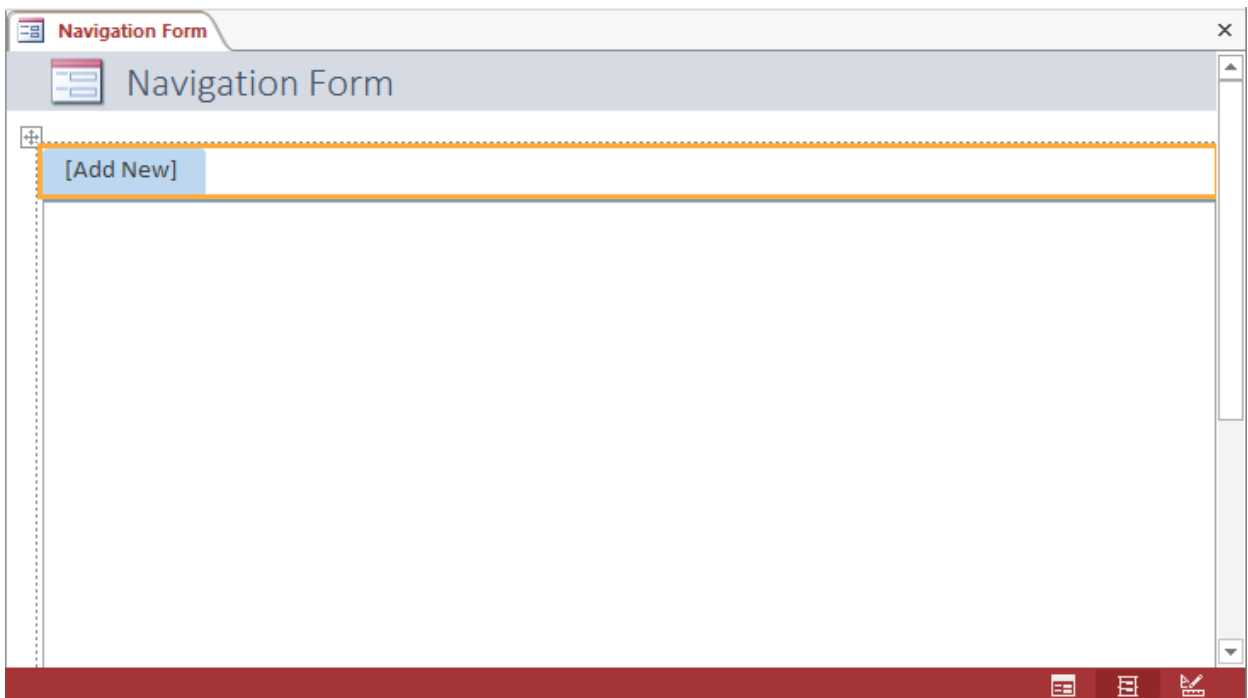

Figure 15: Empty Navigation Form in Layout View with Horizontal Tabs
2. **Create a Horizontal Navigation Form:** Select **Create** → **Navigation** → **Horizontal Tabs** to create an empty navigation form with horizontal tabs. Close the Field List window because it will not be used to demonstrate navigation form creation. Figure 15 shows the empty navigation form in layout view. The top part of a horizontal navigation form contains tabs and the bottom part contains the object pane. Each tab contains a separate object pane.